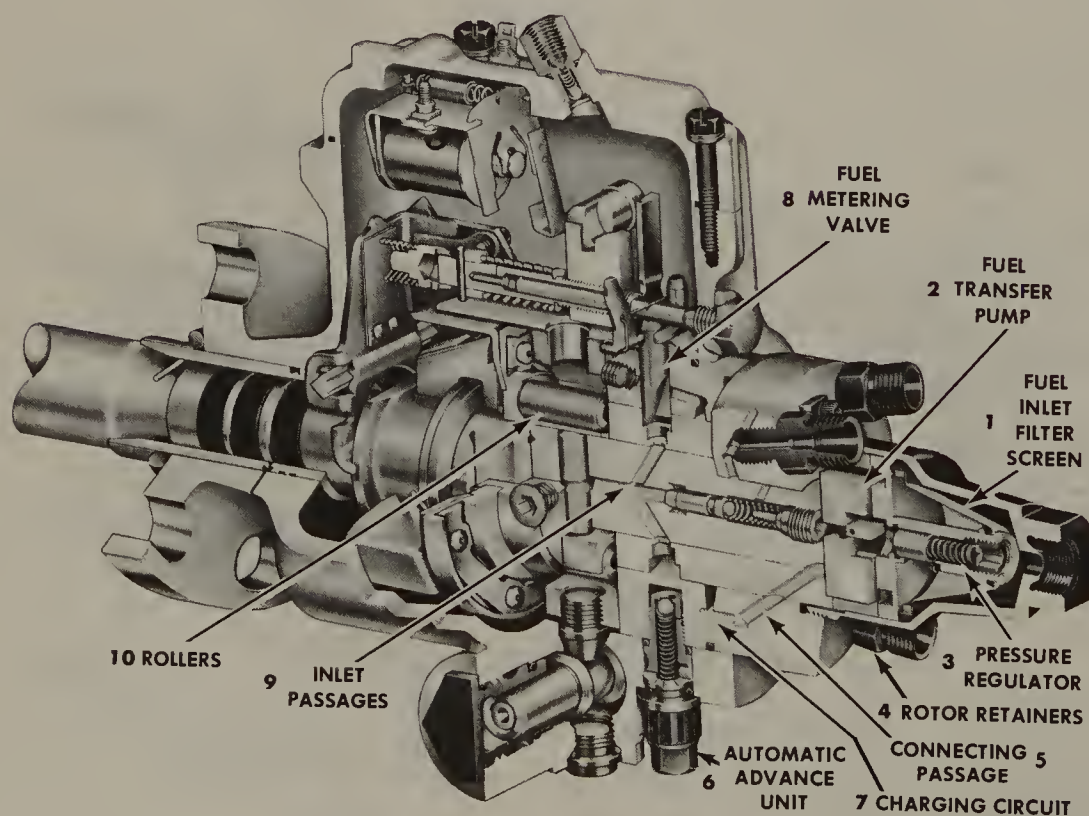

Figure 6-33. Fuel flow through the distributor injection pump (Stanadyne)
Fuel Flow through the Distributor Injection Pump We can now trace the fuel flow through the distributor injection pump. The fuel flow through the pump is shown in Figure 6-33. Fuel is supplied from the engine crankshaft-operated fuel pump through filters into the injection pump. Fuel then passes through the fuel inlet filter screen (1) and to the fuel transfer pump (2). Some fuel is bypassed through the pressure regulator (3) back to the suction side.